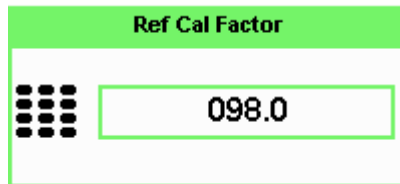

Figure 7-5 Reference calibration factor pop-up window
- 4 To change the settings, press the channel **REF CF**. The reference calibration factor pop up window is displayed as shown in Figure 7-5. Use the numeric keypad to enter the required value in the **Ref Cal Factor** pop-up menu.